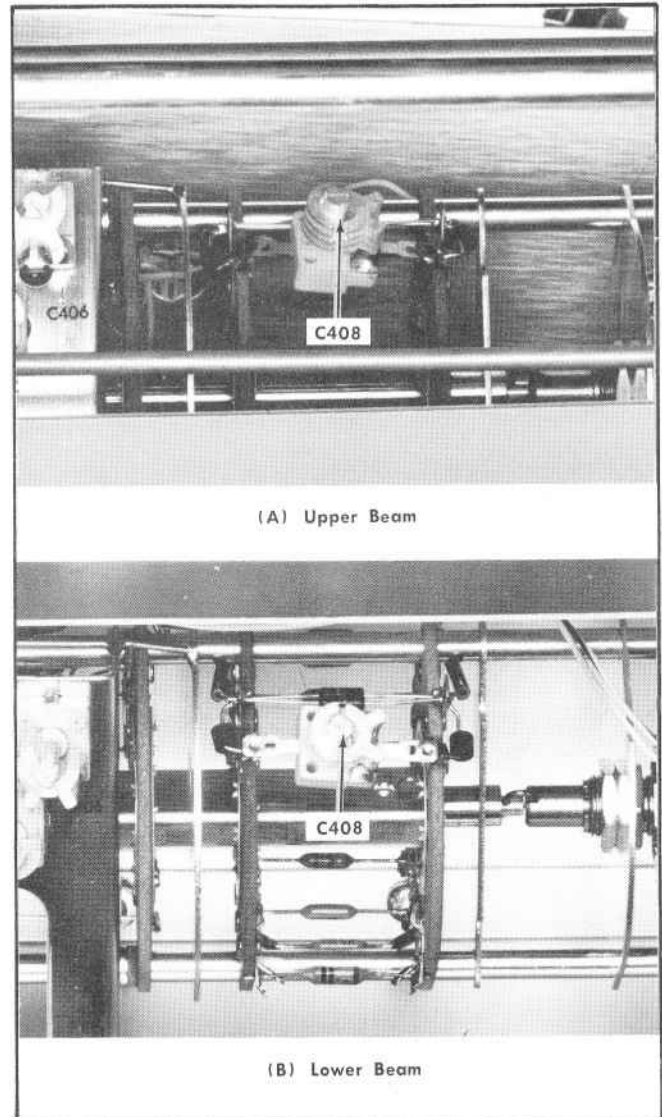

Fig. 6-33. Location of C408 (step 33a).
- Set C408 (see Fig. 6-33) on both amplifiers for ≤ 1.4 mm loop opening. Maintain minimum capacitance on both capacitors while obtaining the desired results.